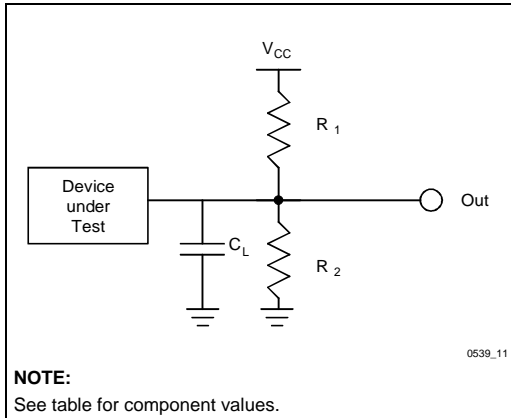

Figure 19. Test Configuration
5. See *Test Configuration* (Figure 19), 2.7 V–3.6 V and 3.3 ± 0.3 V Standard Test component values.
6. See *Test Configuration* (Figure 19), 5 V Standard Test component values.
9. See *Test Configuration* (Figure 19), 2.7 V–3.6 V and 3.3 ± 0.3 V Standard Test component values.
10. See *Test Configuration* (Figure 19), 5 V Standard Test component values.